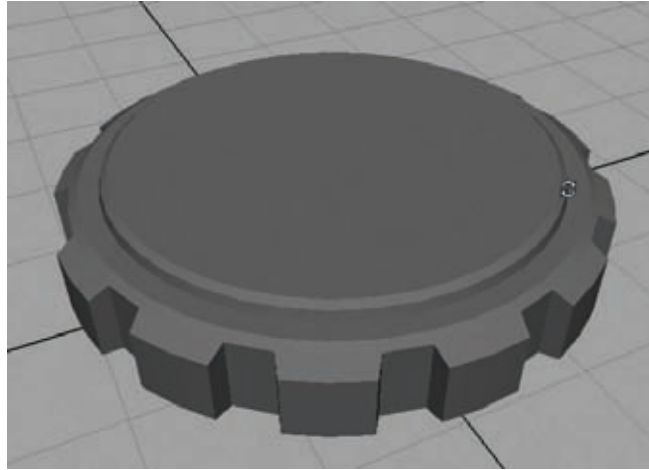

Figure 8.2
7. Press Insert again to exit Edit Pivot mode. Be sure not to change your Scale Tool to a different tool or it will erase the pivot change. With the pivot change still active, scale down the faces, making them taper toward the base of the geometry (Figure 8.2).